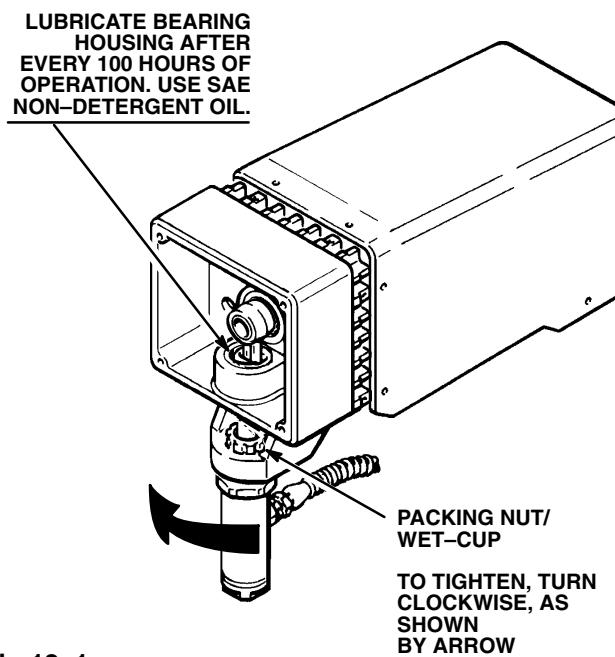

Fig 12-1
The packing nut should be tight enough to stop leakage, but no tighter. Over tightening may cause binding and excessive packing wear. Use a round punch or brass rod and light hammer to adjust the nut. See *Fig 12-1*.
2. **Lubricate the bearing housing** after every 100 hours of operation. Remove the cover of the bearing housing. Fill the bearing housing cavity with SAE non-detergent oil. See *Fig 12-1*.